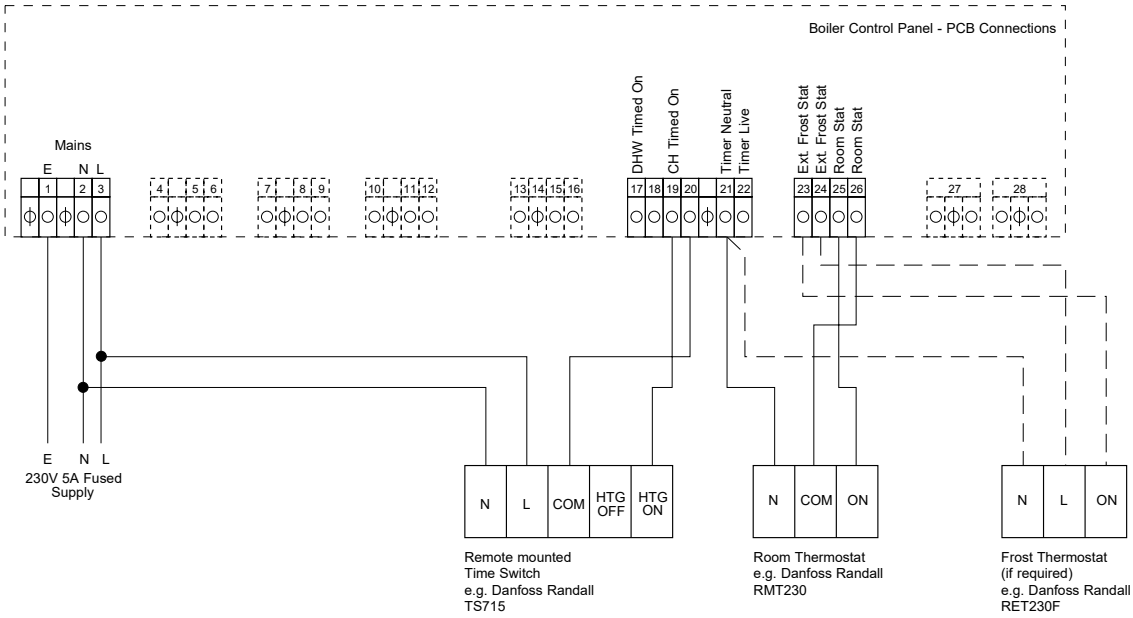

Figure 8-2: Connections for a remote timer and room thermostat
Any remote timer must be of a single channel 230V type with voltage free output contacts. Refer to Figure 8-2 for connection details.
6. Remove the Orange room thermostat link wire from terminals 25 & 26 on the connection block and connect the wires from the room thermostat. Refer to Figure 8-2 for further details.
9. Connect the two switch wires from the timer to terminals 19 & 20 on the connection block, using Figure 8-2 for guidance.
10. Connect the live, neutral (and earth if required) from the timer to terminals 3, 2 & 1 respectively on the boiler terminal block. Refer to Figure 8-2 for further details.
- Frost thermostat Neutral (N) to terminal 21 on PCB connector.
- Frost thermostat Live (L) to terminal 24 on PCB connector.
- Frost thermostat Switched Live-ON (3) to terminal 23 on PCB connector.
6. Refer to Figures 8-2 to 8-4 for typical connection of Remote Frost Thermostat.